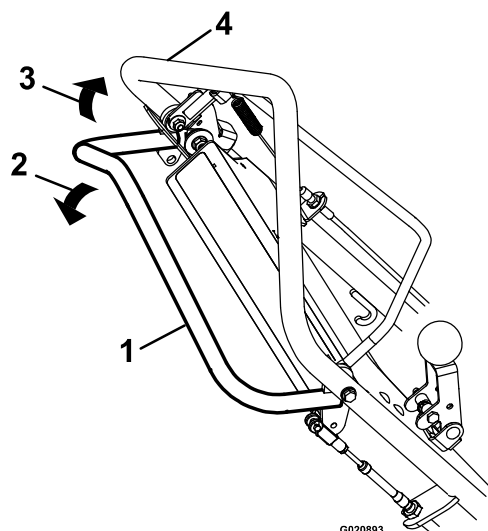

Figure 11
- To move forward, squeeze the self-propel drive bail against the handle (Figure 11).